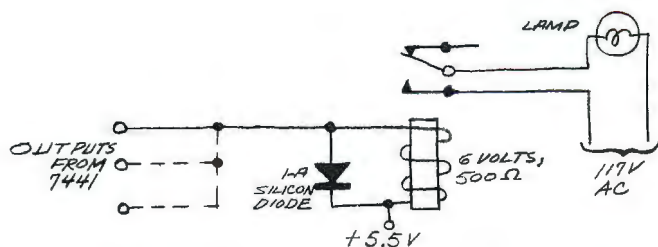

Fig. 5. As many as 10 relays can be used to control various home appliances.
**Burglar Deceiver.** Now that you know how to build both a programmable square-wave generator and a fairly fancy LED flasher, how do you "randomly" switch your house lights and perhaps a radio on and off to keep the burglars away? Simply increase  $C1$  to  $50\mu F$  and  $R1$  to 10 megohms to get a clock cycle of about ten minutes for a total timing period of 100 minutes. Then connect outputs from the 7441 to suitable relays whose contacts control lamps or radios in various rooms of your house. Install a 1-A rectifier diode across each relay coil as shown in Fig. 5.